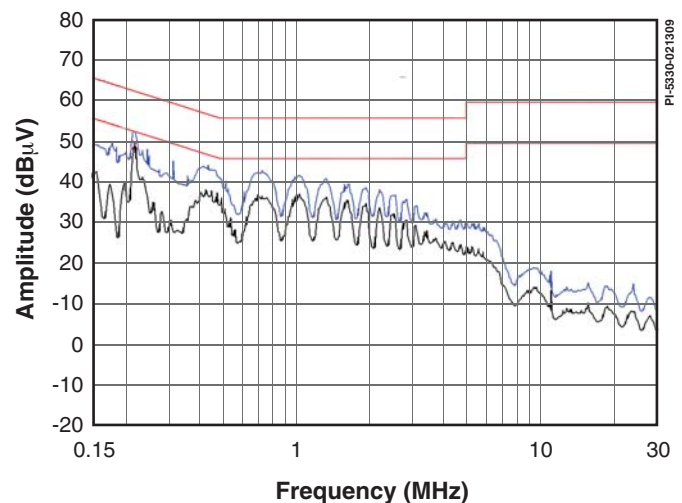

Figure 3. Worst Case EMI Plot. 230 VAC, Shown Full Load with EN55022B Limits.
- Meets EN55022B limits for conducted EMI (see Figure 3)